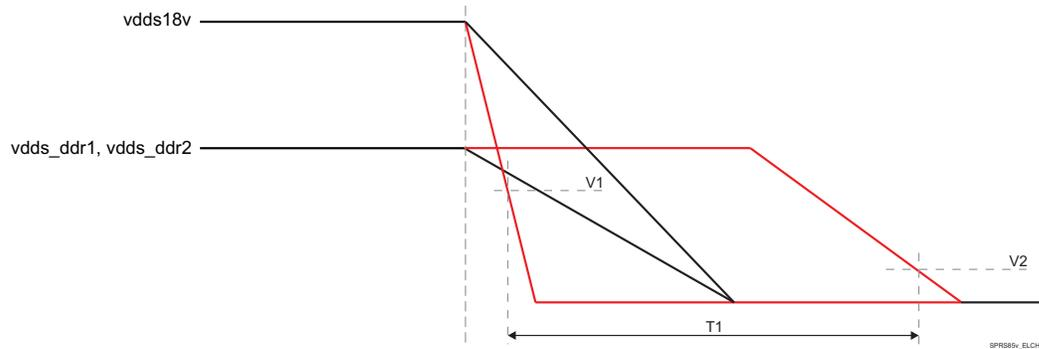

图 5-6. vdds18v and vdds_dds* Discharge Relationship⁽¹⁾
- must satisfy the vdds18v and vdds_dds* Discharge Relationship (see 图 5-6) if vdds_dds* discharge rate is slower than vdds18v.
If vdds18v and vdds_dds* are disabled at the same time due to a loss of input power event or if vdds_dds* discharges more slowly than vdds18v, analysis has shown no reliability impacts when the elapsed time period beginning with vdds18v dropping below 1.0 V and ending with vdds_dds* dropping below 0.6 V is less than 10 ms (图 5-6).